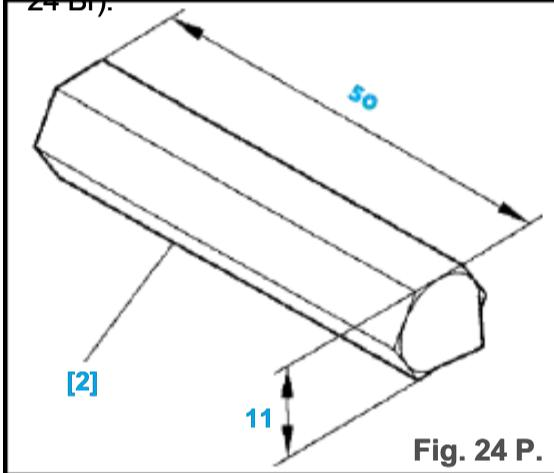

Fig. 24 P.
- plantear la varilla [2] (Ref. 9515T) (Fig. 24 Br).